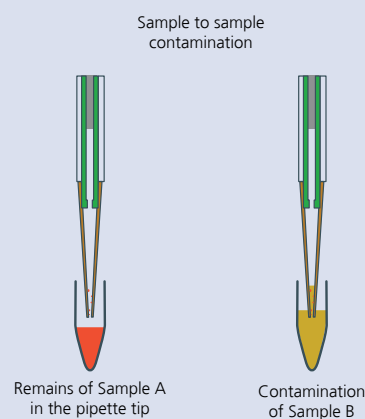

Fig. 2: Sample to sample contamination ("carry over")
**Sample to sample contamination** occurs if a part of sample A adheres in droplet form to the inside of the pipette tip during sample dispensing. This part of sample A is then mixed with sample B resulting in false test results (Fig. 2). To avoid this source of contamination the pipette tip should be replaced after each dispensing of a sample.